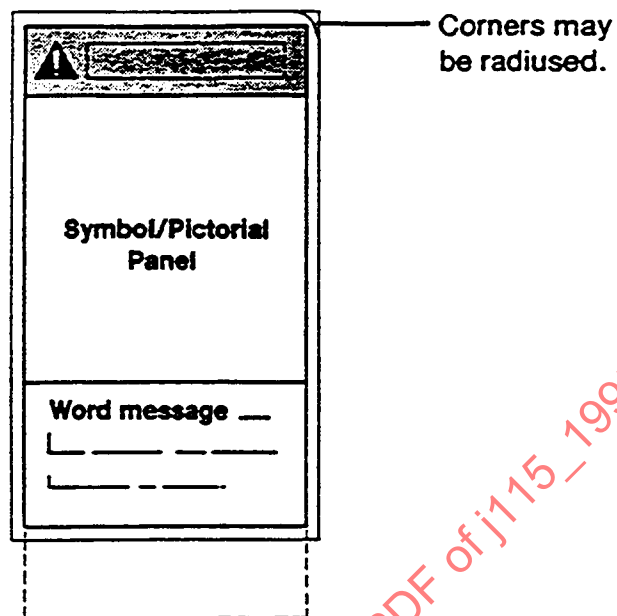
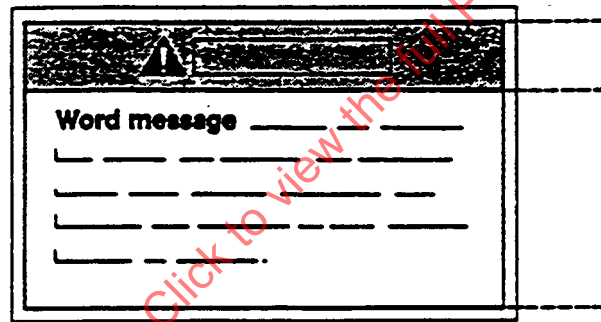

FIGURE 2—THREE-PANEL SIGN—VERTICAL FORMAT
FIGURE 5—TWO-PANEL SIGN—HORIZONTAL FORMAT
- 4.2 **Panel Arrangement**—The sign panels can be either in a horizontal or vertical arrangement (Figure 2 through Figure 5). The figures, as shown are sample formats. Actual size, layout, and proportion may vary depending on application requirements.